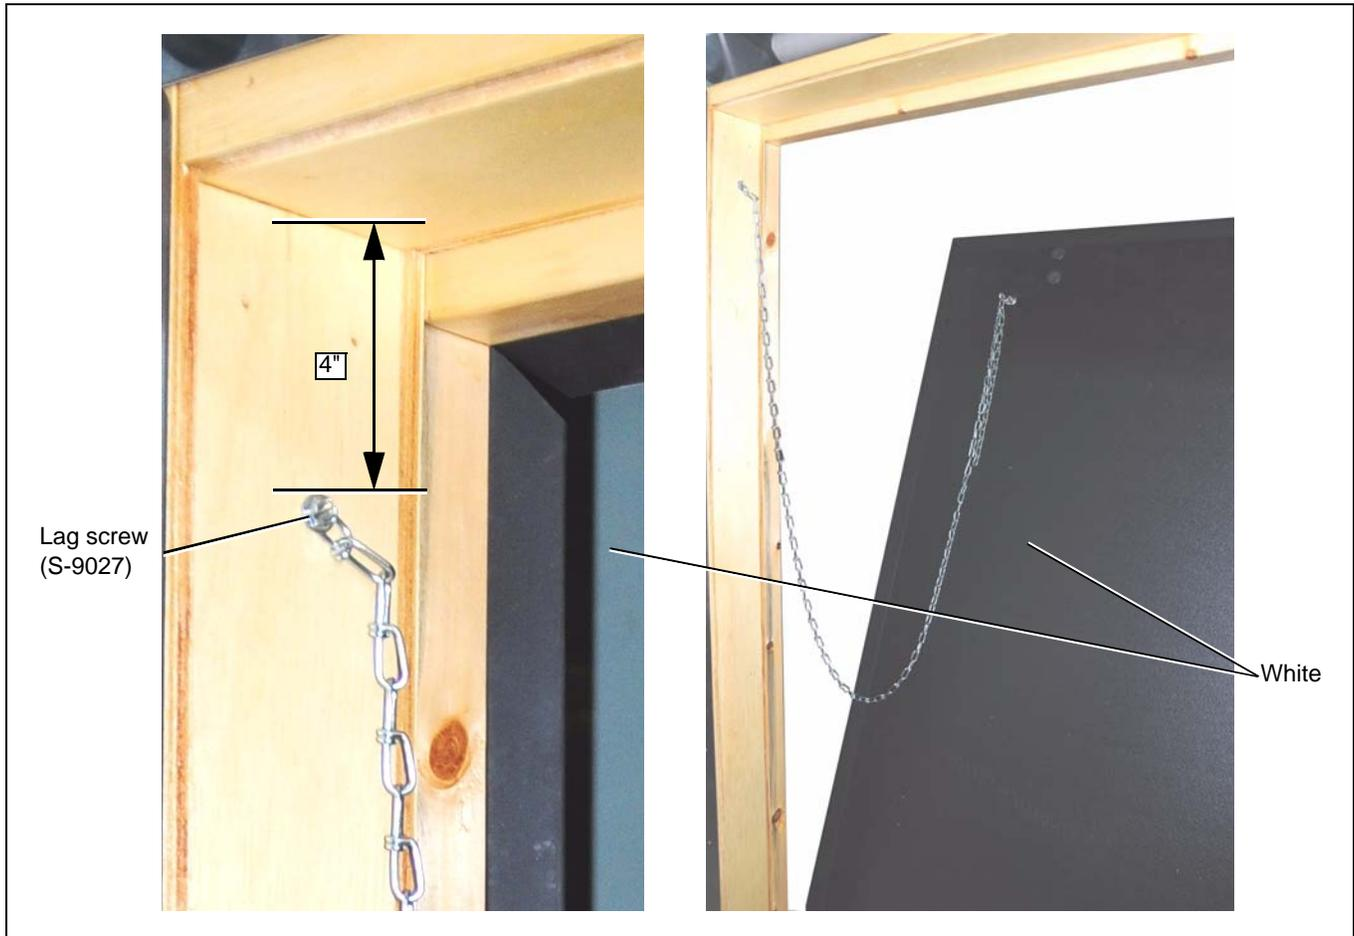

Figure 3H Safety Chain Installation
1. Starting at the first post; attach one end of the chain to the center 4" down from the top 2" x 6" frame board using the lag screw (S-9027) provided. (See Figure 3H.)